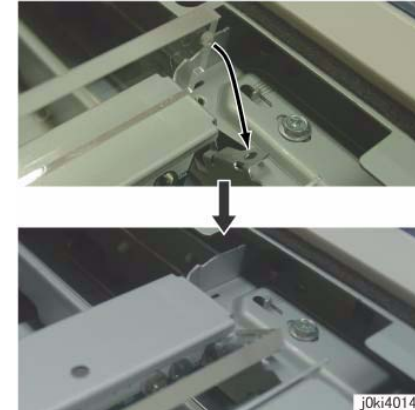

Figure 2 Install the Light Guide
2. When installing the Light Guide, insert the boss of the Light guide into the positioning hole of the Full Rate Carriage. (Figure 2)